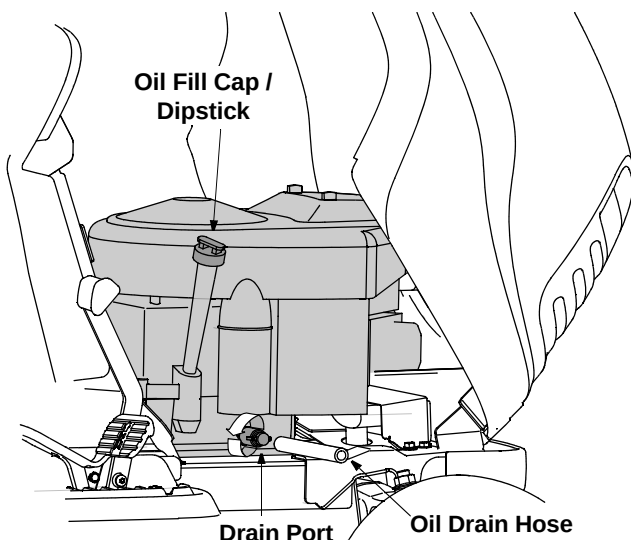

Figure 11
- Unscrew the oil fill cap and remove the dipstick from the oil fill tube. See Figure 11.
- Pop open the cap at the end of the oil drain valve and expose the drain port as shown in Figure 11.
- Push the oil drain hose, originally packed with this manual, on to the oil drain port. See Figure 11.